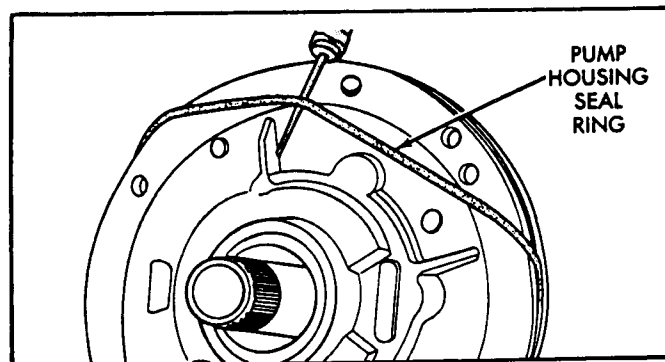

Figure 57
25. Install new seal ring around pump body as shown in Figure 57. Ensure that seal is properly seated in groove, and not twisted.